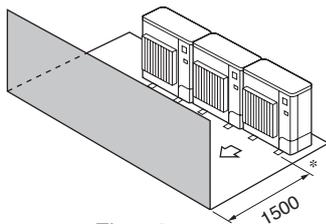

Fig. 12
(3) Obstacles at front only (Fig. 12)